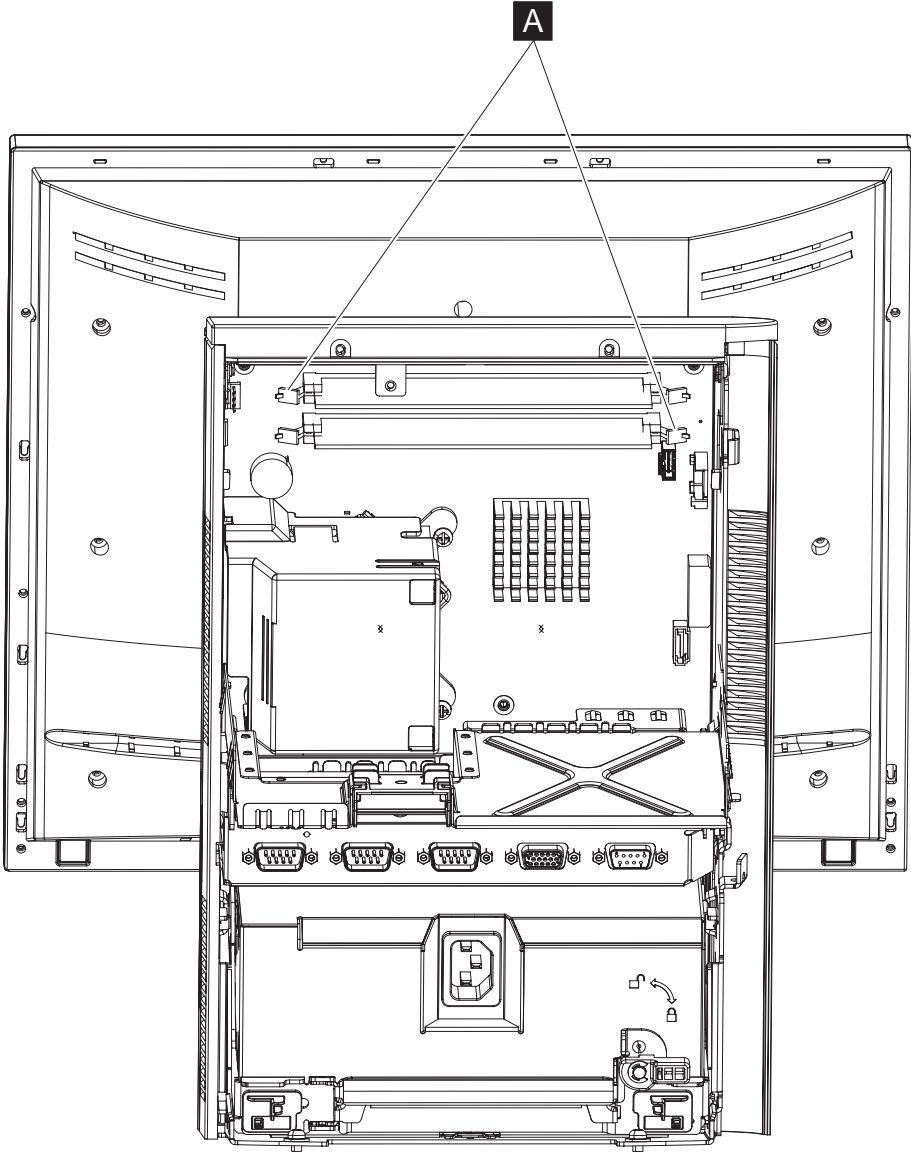

Figure 13. Memory socket location
All system boards have two memory sockets. See Figure 13. The factory-installed base memory occupies one of the sockets. If the order is greater than the base memory, there may or may not be an empty socket.
5. Locate the memory modules. See **A** in Figure 13 on page 41.